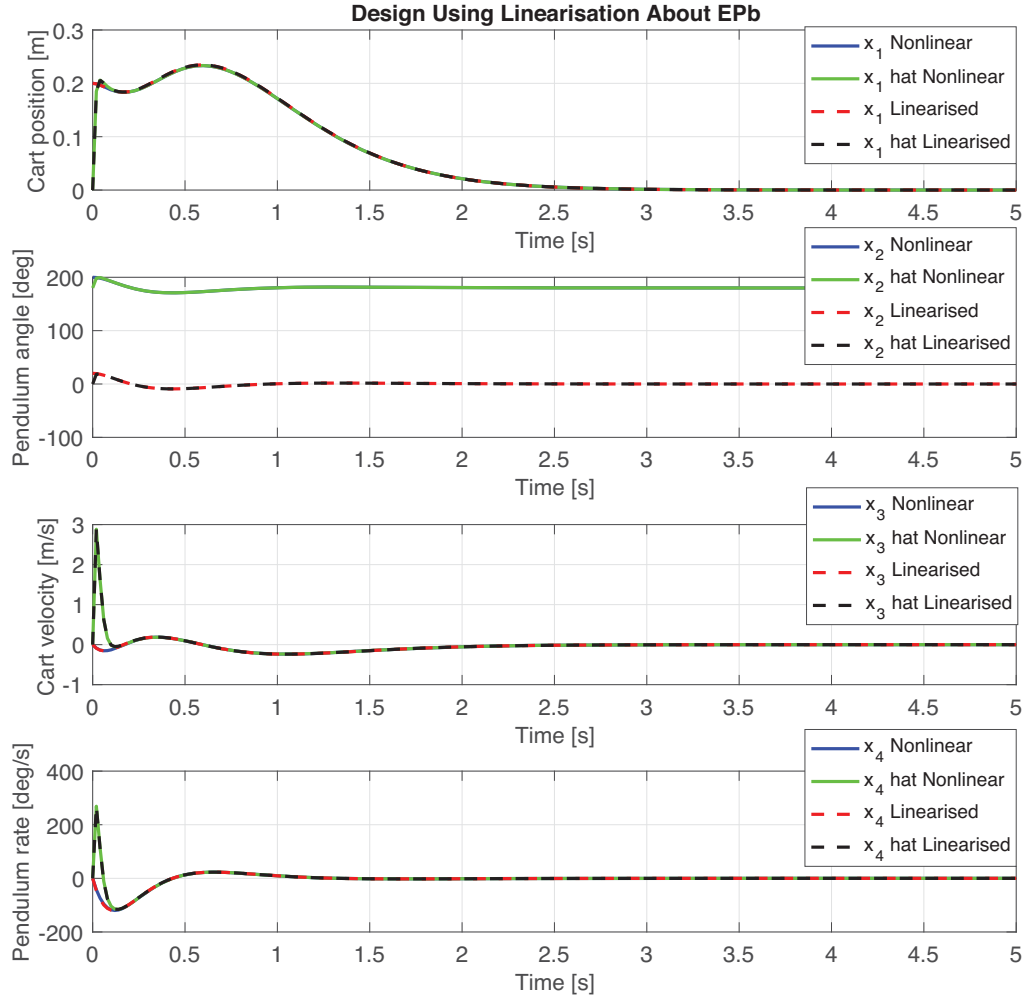

Figure 5: Time histories of the system states and the state estimations.
- f) Plot the results of the simulations in a figure that shows the time histories of the position of the cart, the angle of the pendulum, the velocity of the cart, the angular velocity of the pendulum and the estimation of the states for both the linearised and nonlinear control systems. An example of the simulation results is shown in Figure 5.